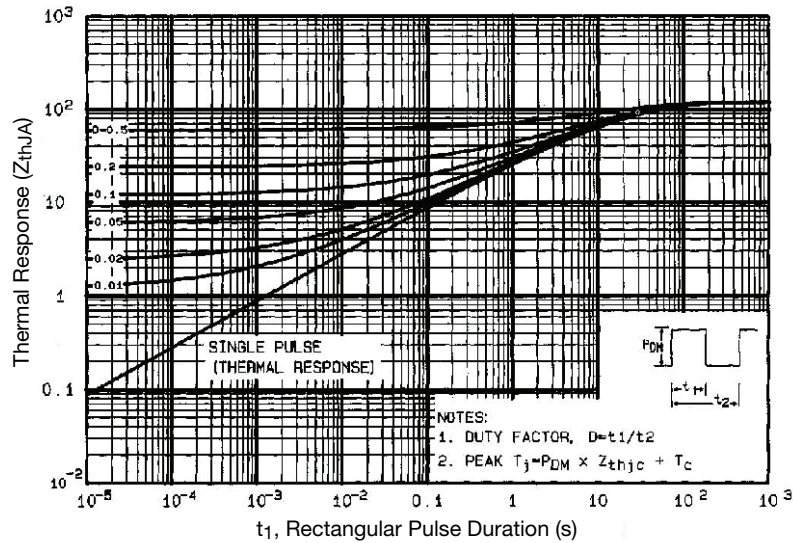

Fig. 11 - Maximum Effective Transient Thermal Impedance, Junction-to-Ambient
- Repetitive rating; pulse width limited by maximum junction temperature (see fig. 11)
- a. Repetitive rating; pulse width limited by maximum junction temperature (see fig. 11)